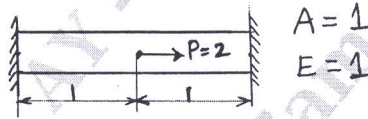

Fig.Q2(a)
- 2 a. Using Rayleigh-Ritz method, determine the displacement at mid-point and stress variation in one dimensional bar as shown in Fig.Q2(a).